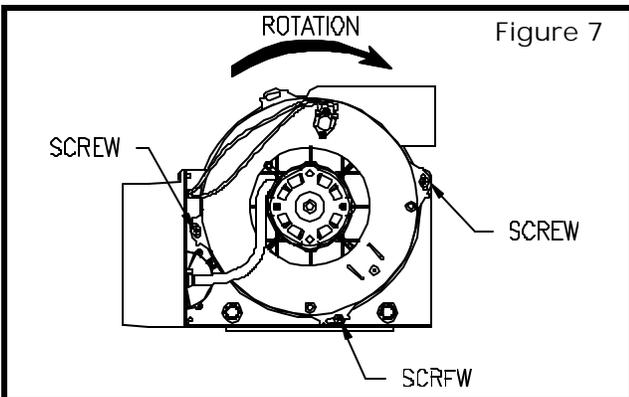

Figure 7
This water heater is a power vented appliance and is designed to vent its products of combustion through 2" (5.1 cm) or 3" (7.6 cm) diameter Schedule 40 (solid or cellular core) PVC pipe to the outdoors. The water heater may be either vented through the wall or vertically through the roof. Use a 3" (7.6 cm) reducer to connect to the vent outlet when using 3" (7.6 cm) PVC. Apply PVC cement at PVC locations. Table 7 lists the maximum vent lengths for this water heater using 2" (5.1 cm) PVC. If possible, locate the water heater so that the venting length and number of elbows are kept to the minimum distance necessary to reach the outside. If the installation requires venting lengths that exceed the lengths listed for 2" (5.1 cm) PVC in Table 7 then use 3" (7.6 cm) PVC for the vent connector. Table 8 lists the venting distances allowed with 3" (7.6 cm) diameter PVC pipe. When venting with 3" (7.6 cm) PVC, use a 3" (7.6 cm) to 2" (5.1 cm) reducer to exit through the building wall with 2" (5.1 cm) PVC. Use the 2" (5.1 cm) vent terminal supplied with the water heater to terminate on the outside of the building. If the length of the 2" (5.1 cm) needed to go through the wall is greater than 14" (35.6 cm), use 3" (7.6 cm) PVC to go through the wall and reduce to 2" (5.1 cm) PVC immediately after exiting the outside wall. Refer to the venting illustrations on the following pages. Make sure the vent pipe terminal is at least 1" (2.5 cm) away from the edge of the wall. To vent horizontally with zero (0) elbows, remove 3 screws from blower housing and rotate the blower housing 90° clockwise (see Figure 7). Replace the three (3) screws once blower housing rotation is complete.